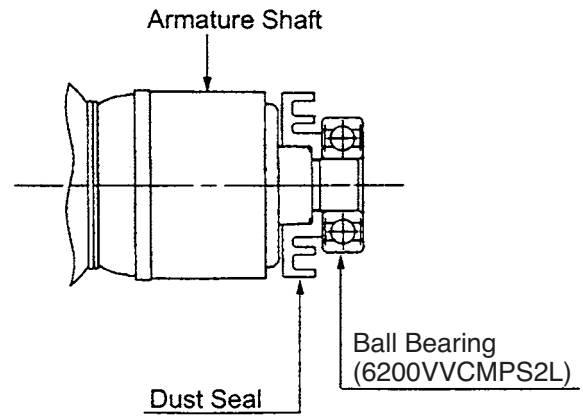

Fig. 13
(1) Generously lubricate the teeth of Gear [21] <21> and Pinion [8] <8> with grease. Rub grease onto the teeth with your fingers so that the grease reaches each tooth bottom. Note that under-lubricated Gear [21] <21> and Pinion [8] <8> may wear at a faster rate.
(2) When replacing the Armature [14] <14> and the Ball Bearing 6200VVCMP2L [45] <45> on the commutator side, press inward on the Dust Seal [44] <44> while taking care of its direction until the end face of the Dust Seal [44] <44> hits against the butting surface of the Armature [14] <14> and make sure that the Dust Seal [44] <44> cannot turn freely. (See Fig. 13.)